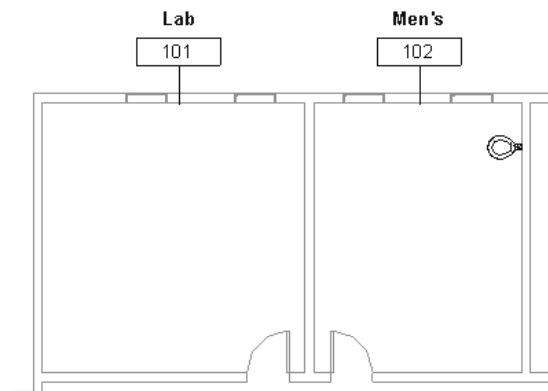

Figure 2–25
4. Click along one of the walls to place the fixture, as shown in Figure 2–25.